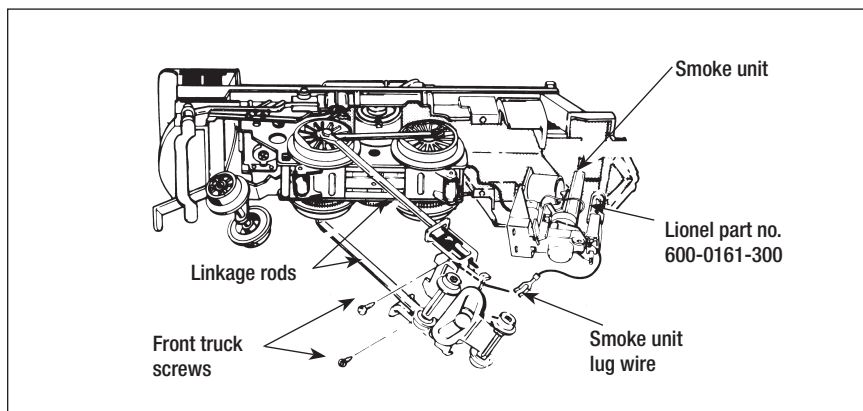

Figure 12. Headlight replacement
**Y**our locomotive lights the way with its operating headlight. During the course of normal operations, the lamp may require replacement. Refer to Figure 12 as you replace the lamp.